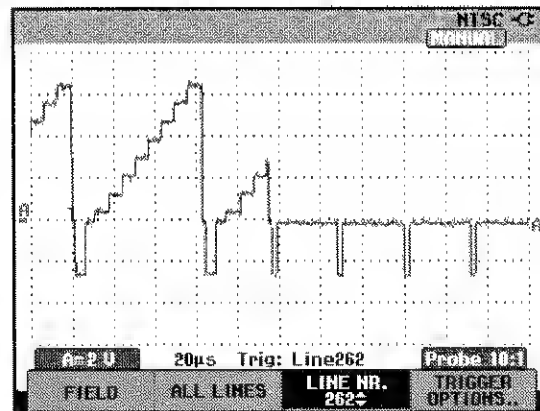

Figure 4-12. Trace for NTSC line 262
- line number 262 for NTSC, see Figure 4-12.